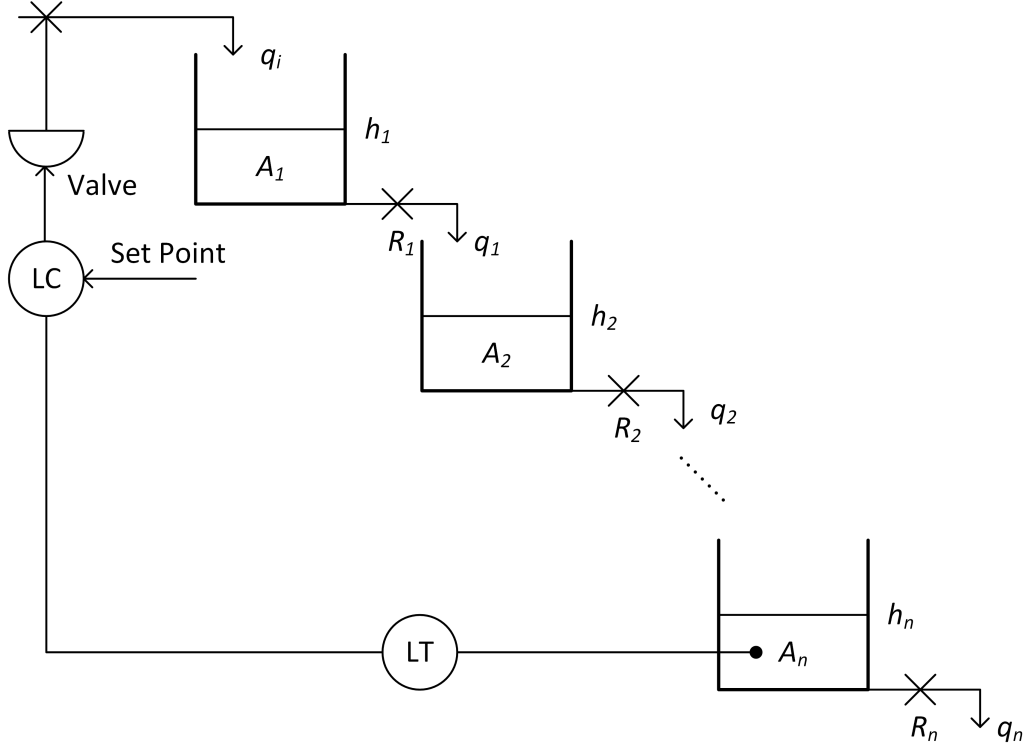

Figure 1
1. **Non-interacting Tanks** Consider the non-interacting tanks system depicted in Fig. 1. Let $A_k(m^2)$ denote the cross-sectional area of tank k , $q_k(m^3/min)$ and $q_{k-1}(m^3/min)$ its inflow and outflow, respectively, and $R_k(min/m^2)$ its outflow valve resistance. Assuming that the outflow is linearly dependent to tank water height, $q_k = h_k/R_k$. Assume also that the actuating valve and the level transmitter are ideal; that is, level transmitter can give instantaneous measurements and actuator can supply the desired water flow without any limits or delay.